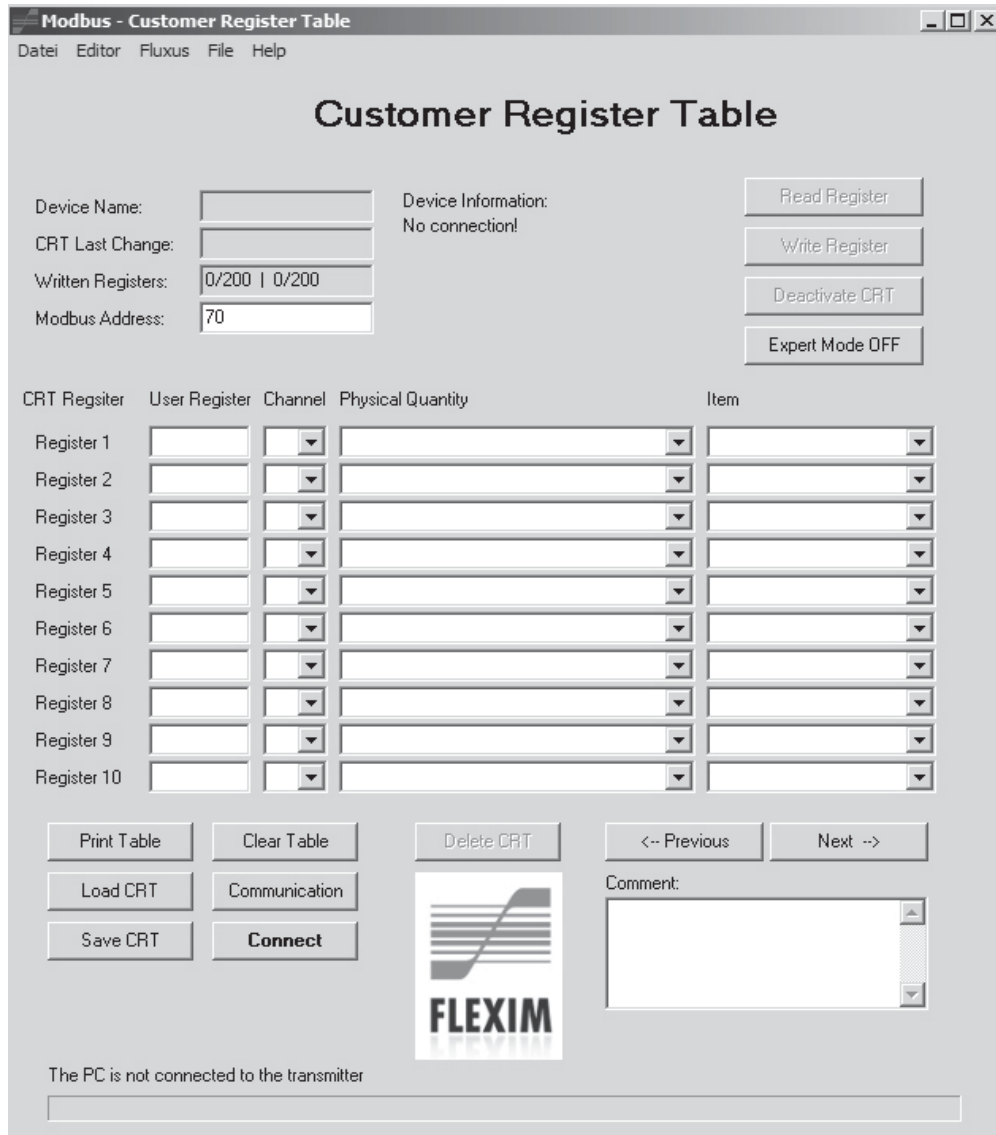

Fig. B.1: Start window
The start window is opened (see Fig. B.1).
- In the start window, click the button Communication (see Fig. B.1).
- Click the button Connect in the start window (see Fig. B.1).